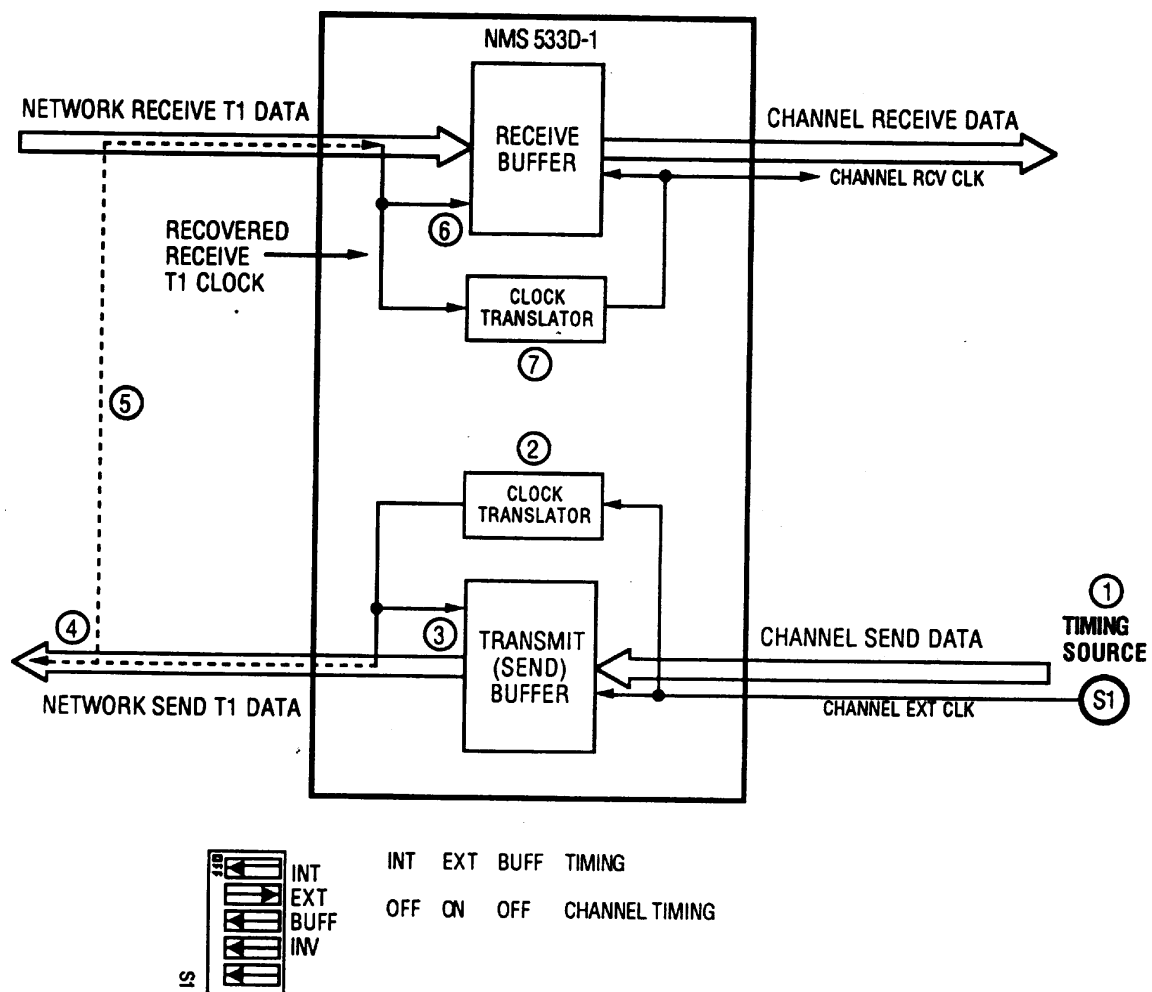

Figure 5-3 Channel Timing
With Channel Timing, illustrated in Figure 5-3, the customer equipment connected to the DSU's channel interface provides its own channel transmit clock signal (1) on the appropriate interface lead. The DC 554A DSU translates (2) this clock to provide the send timing source for T1 data output from the transmit buffer (3) to the network. The remote DSU uses this as its timing reference (4) and loops it back to the DC 554A DSU (5). The DC 554A DSU recovers the receive T1 clock from the network receive T1 data and uses it to clock T1 data into the receive buffer (6). The DC 554A DSU also translates (7) the receive T1 clock to provide the receive clock signals for the channel on the appropriate interface leads.